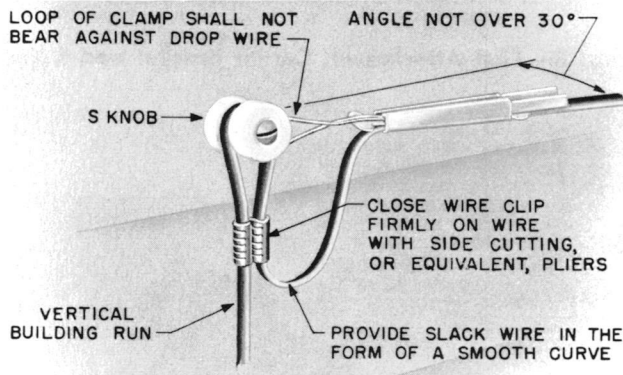

Fig. 2 - T Knob
1.03 The T knob (Fig. 2) is designed to accommodate two drop wires.